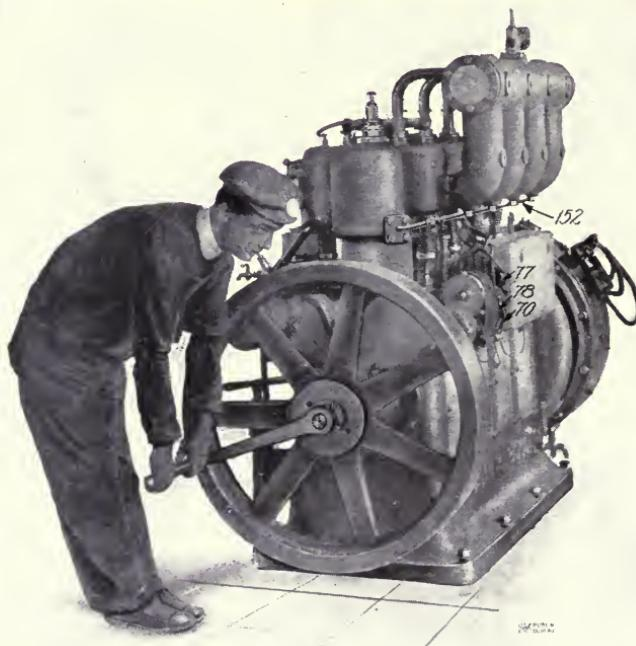

Fig. 7.—Correct method of cranking.
1. **Place ignition switch** (*part 77 Eisemann and G. E. magnetos, part 1038 Splitdorf magneto*) **in “off” position** (*see fig. 7; also par. 17*).
15. Engage crank as in fig. 7 and **pull up, never push down**.